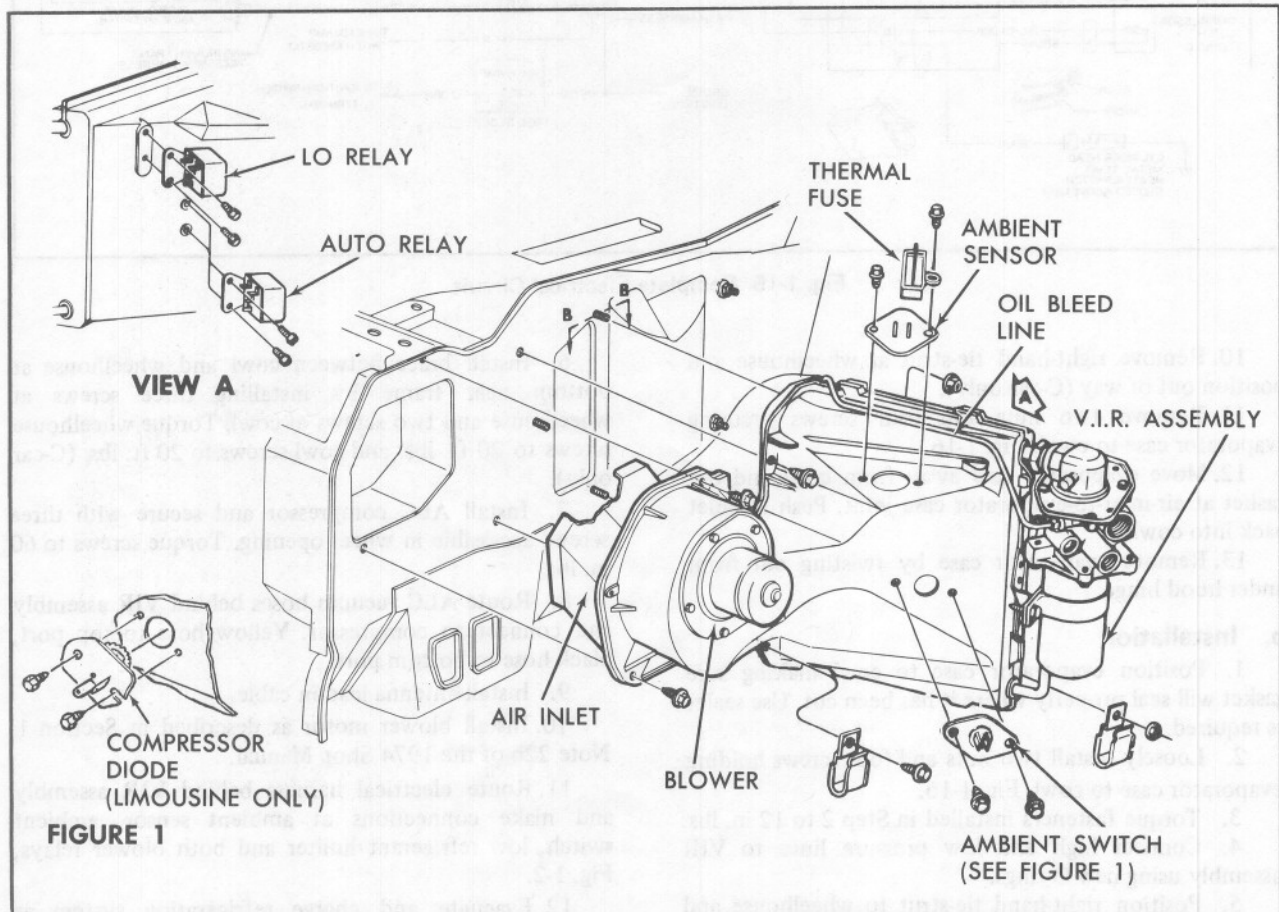

Fig. 1-16 Air Inlet, Blower and Evaporator
11. Remove two nuts and four screws securing evaporator case to cowl, Fig. 1-16.
2. Loosely install two nuts and four screws holding evaporator case to cowl, Fig. 1-16.